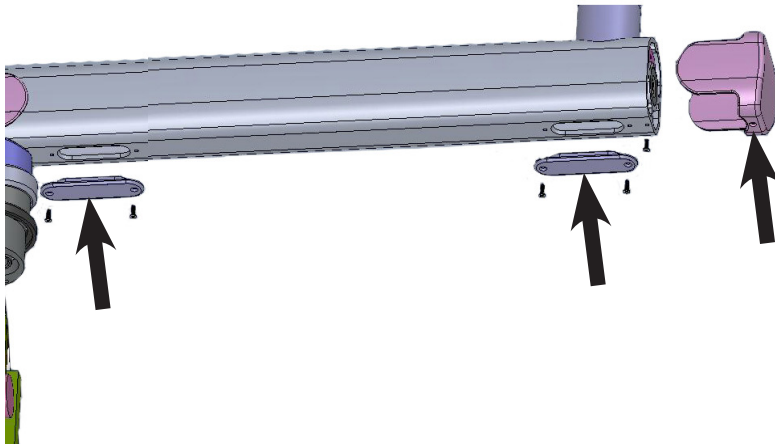

Figure 51
- Remove 2 bottom caps of the straight arm by removing M3x6 self tapping screws (2 screws for each cap) using phillips screw driver as shown in Figure 51 .
- Remove front end cap of straight arm by removing one M3x6 self tapping screw at bottom side using phillips screw driver as shown in Figure 51 .